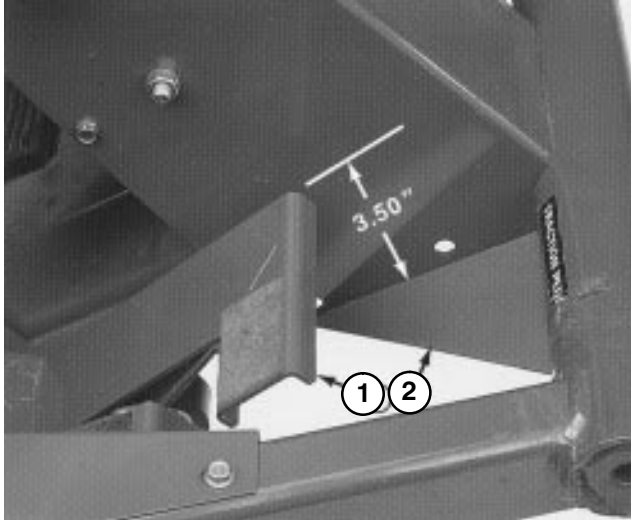
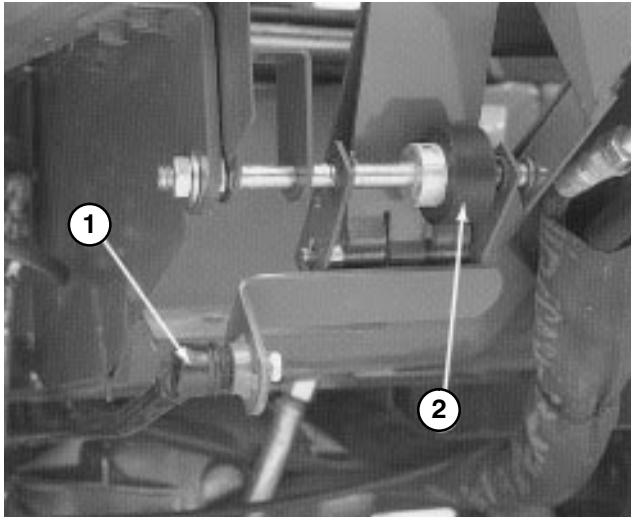

Figure 53
Figure 54
2. Press down on front of traction pedal and check travel. There should be approximately 3.50" clearance between end of pedal and floor plate when pedal in fully depressed (Fig. 53). Adjust pump control rod (Fig. 54) to attain dimension.
1. Loosen two nuts securing traction pedal shaft on right side of pedal (Fig. 54).